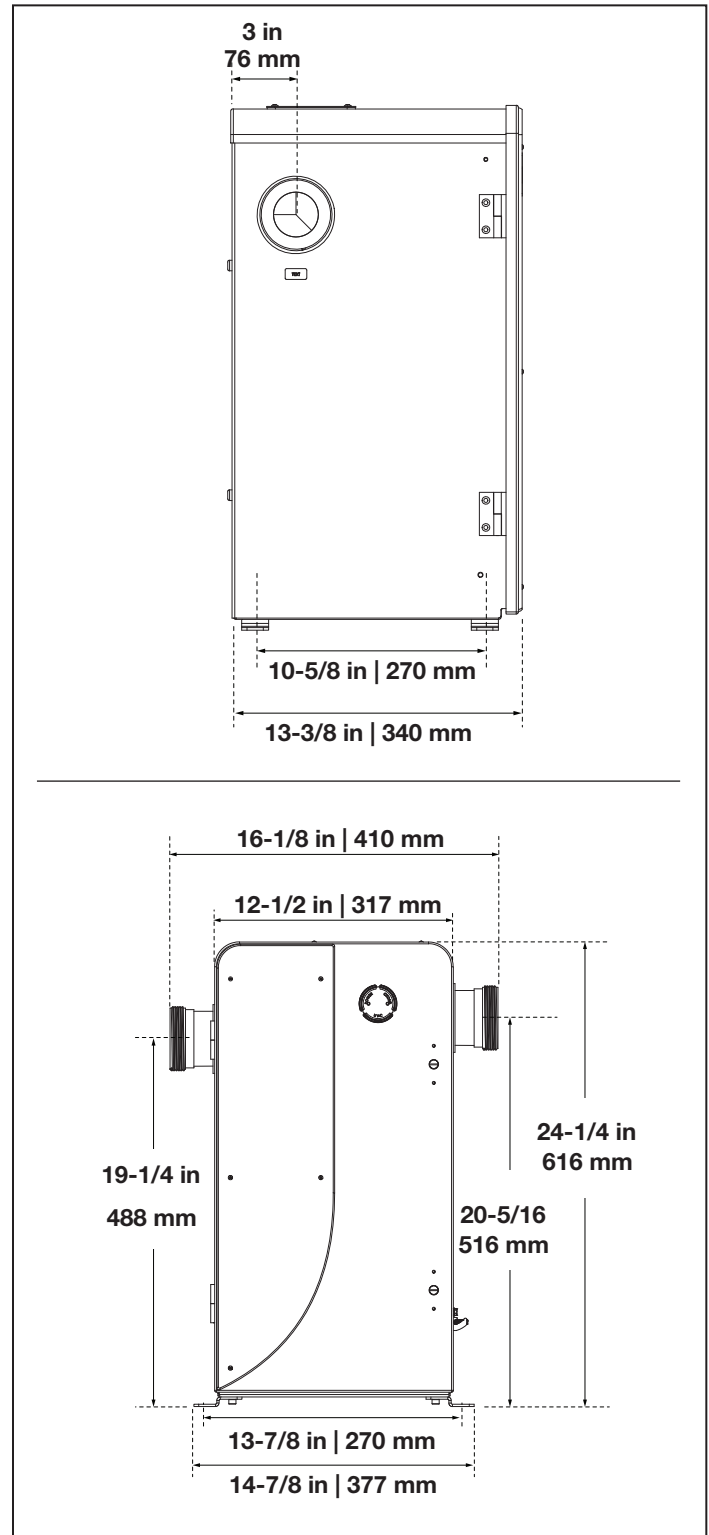
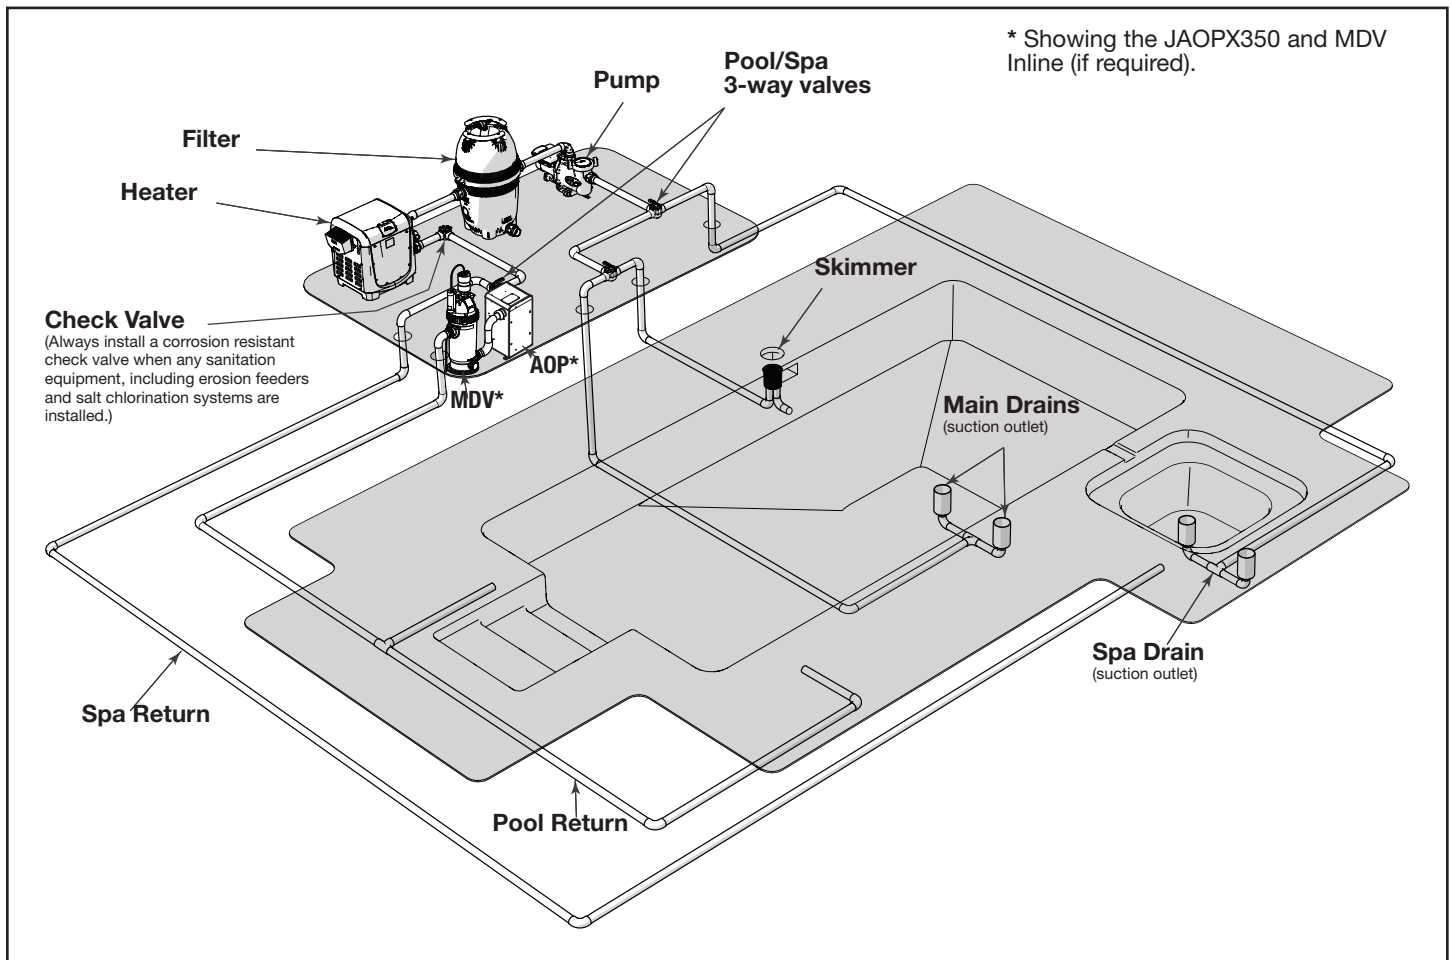

Figure 2. JAOPX200 and JAOPX350 Installation Related Dimensions
Figure 4. Typical Jandy AOP Location in Pool Plumbing Loop
- Use the union fittings provided to connect the Jandy AOP inlet and outlet to pool plumbing as shown in Figure 4.
- For installation with additional sanitizers and pool cleaners, see section 7.1 *Appendix A: Jandy X Series AOP Installation - System Plumbing*. Figure 2 shows related dimensions. Figure 4 shows a typical plumbing diagram.